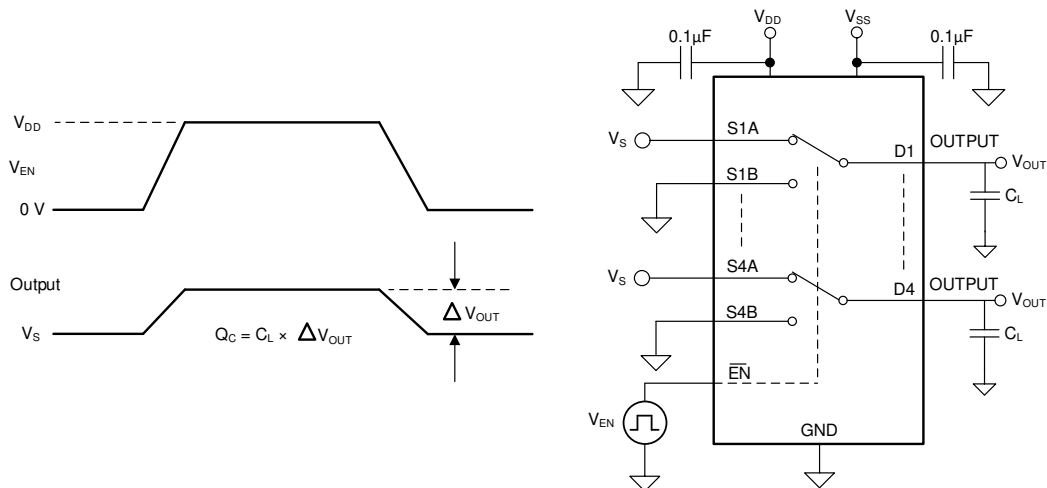

图 7-7. Charge-Injection Measurement Setup
The TMUX1133 has a transmission-gate topology. Any mismatch in capacitance between the NMOS and PMOS transistors results in a charge injected into the drain or source during the falling or rising edge of the gate signal. The amount of charge injected into the source or drain of the device is known as charge injection, and is denoted by the symbol Q_C . 图 7-7 shows the setup used to measure charge injection from source (S_x) to drain (D).